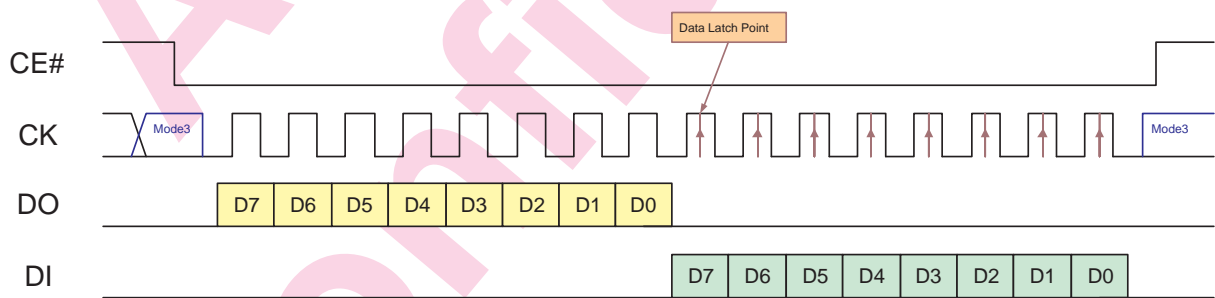

Figure 62: SPI Flash R/W Timing
- Figure 62: SPI type flash read/write timing